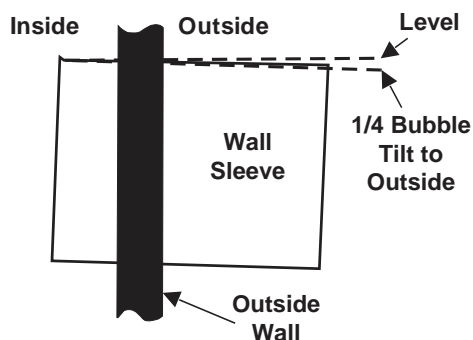

Fig 6 Proper Sleeve Tilt
- A slight downward pitch from the indoor side to the out-door side as shown below(Fig 6).